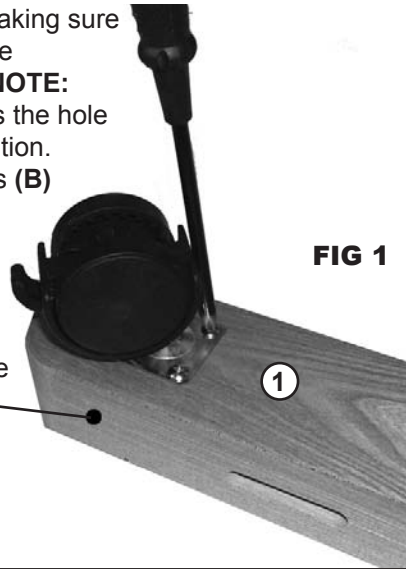

FIG 1
STEP 1. Attach the [4] castors to the two base feet (1) making sure the 2 locking castors are positioned in the rear. **NOTE:** the rear of the base has the hole nearest that castor position. Secure with four screws (B) per castor. See FIG 1.